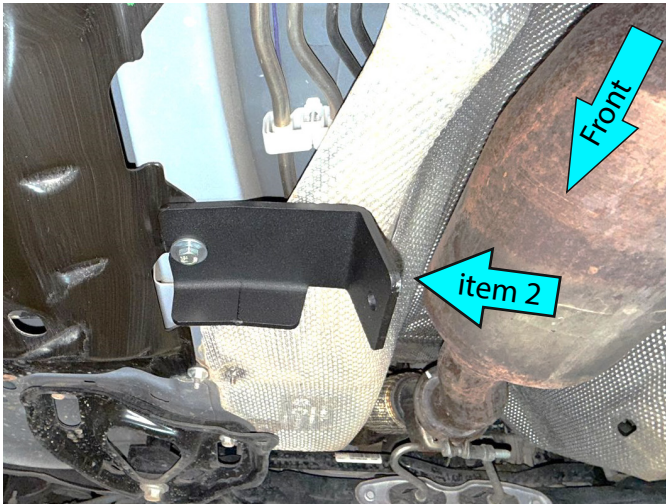
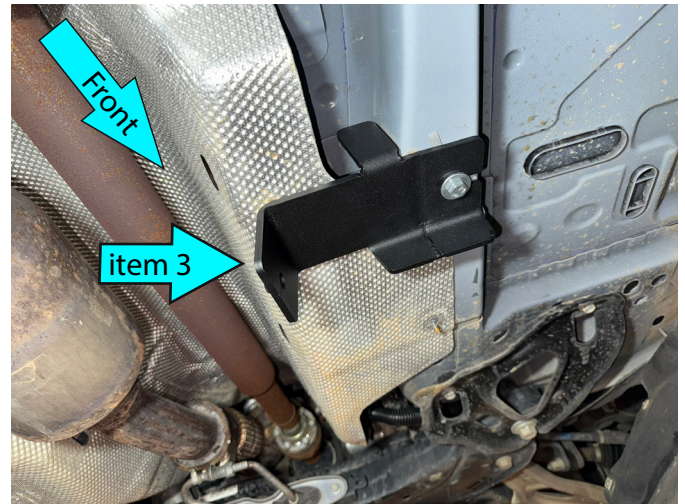

Fig. 7
Fig. 8
7. Slide left and right brackets (items 2,3) over the previously installed M8x25 bolts and M8 washers from step 6. Position and loosely tighten the hardware as shown in Fig.7 and Fig.8.